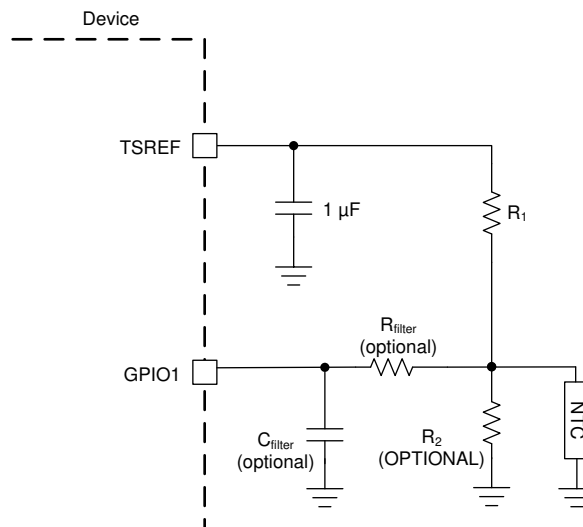

图 9-6. Thermistor Connection
图 9-6 shows the thermistor circuit when GPIO is enabled for thermistor measurements. MCU ensures TSREF is enabled by setting  $CONTROL2[TSREF\_EN] = 1$  and settled before taking the measurement value.
- $R1$  is the pull-up resistor as shown in 图 9-6 with the assumption the  $R2$  is not used